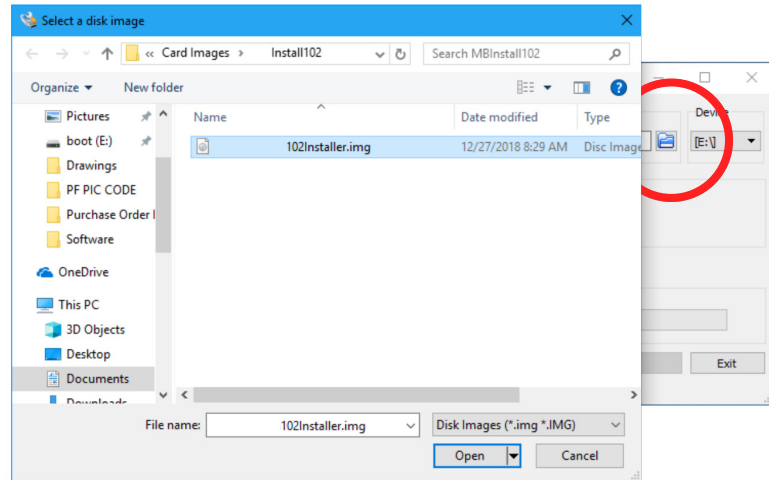

Figure 4-3. Win32 Disk Imager - Locate & Select image file.
7) Click the file folder icon in the Win32 Disk Imager window, then locate and select the unzipped Pulp Fiction .img file on your computer (figure 4-3).